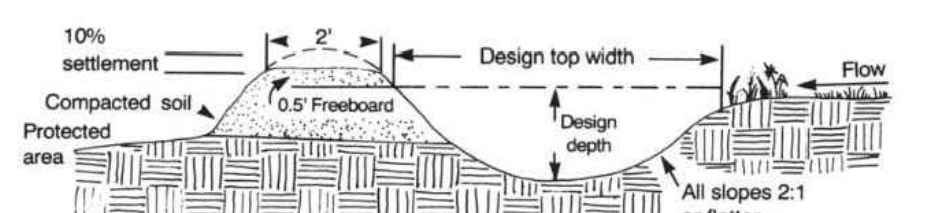

Figure 6.22c Cross section of diversion dike above area to be protected.
- Ridge cross section (Figure 6.22c): Side slopes—2:1 or flatter (3:1 or flatter where vehicles cross) Top width—2 ft minimum Height—1.5 ft minimum from channel bottom Freeboard—0.5 ft minimum Settlement—10% of fill height
- Channel cross section (Figure 6.22c): Side slopes—2:1 or flatter (3:1 or flatter where vehicles cross) Depth and grade—as shown on plans
**Construction** Fill dike higher than design elevation and compact with wheels of construction equipment to design height plus 10% (Figure 6.22c). Construct channel to dimensions and elevations shown on plans.